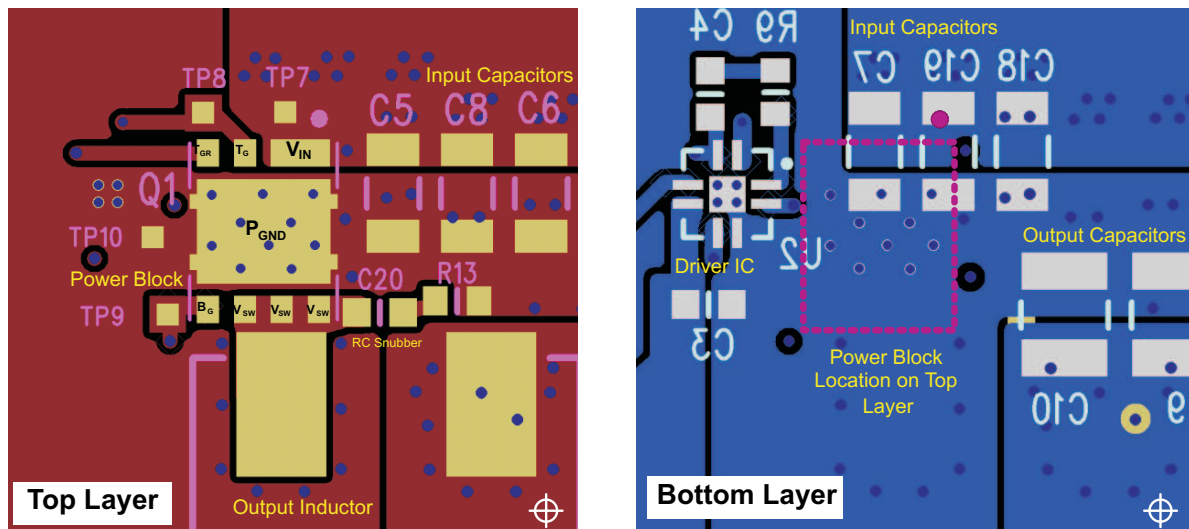

Figure 34. Recommended PCB Layout (Top View)
- The placement of the input capacitors relative to the power block's VIN and PGND pins should have the highest priority during the component placement routine. It is critical to minimize these node lengths. As such, ceramic input capacitors need to be placed as close as possible to the VIN and PGND pins (see Figure 34). The example in Figure 34 uses 6 × 10-μF ceramic capacitors (TDK Part C3216X5R1C106KT or equivalent). Notice there are ceramic capacitors on both sides of the board with an appropriate amount of vias interconnecting both layers. In terms of priority of placement next to the power block, C5, C7, C19, and C8 should follow in order.
- In the event the switch node waveform exhibits ringing that reaches undesirable levels, the use of a boost resistor or RC snubber can be an effective way to reduce the peak ring level. The recommended boost resistor value will range between 1 Ω to 4.7 Ω depending on the output characteristics of driver IC used in conjunction with the power block. The RC snubber values can range from 0.5 Ω to 2.2 Ω for the R and 330 pF to 2200 pF for the C. Refer to Snubber Circuits: Theory , Design and Application (SLUP100) for more details on how to properly tune the RC snubber values. The RC snubber should be placed as close as possible to the Vsw node and PGND see Figure 34. ⁽¹⁾
- Use the smallest drill size allowed in your design. The example in Figure 34 uses vias with a 10-mil drill hole and a 16-mil capture pad.